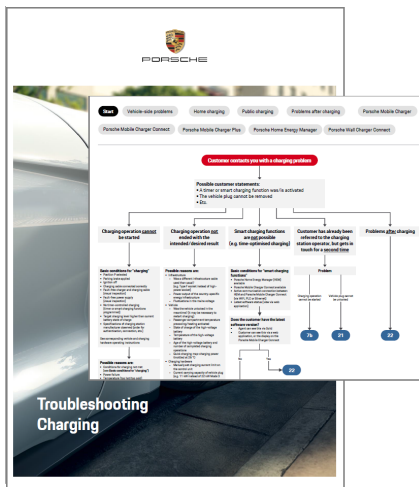

Figure 1
- Troubleshooting Charging document with clickable PDF shortcuts (Figure 1), available via both PCSS (Taycan Information Media, WM group 99) and SoliD (Manuals & Guides)